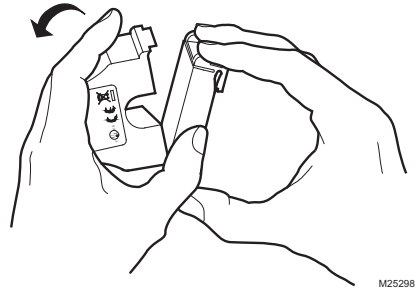
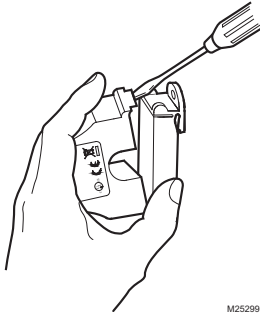

Fig. 5. Opening sensor by hand
Fig. 6. Opening with a screwdriver
Pressing down on the two (2) side tabs and swinging the cover open opens the split core current switch as shown in Fig. 5. Lifting up the latch with a flat-tip screwdriver as shown in Fig. 6 can also open the unit. Press down firmly on the cover to close the current switch. An audible "click" will be heard as the tab slides over the tongue on the base.